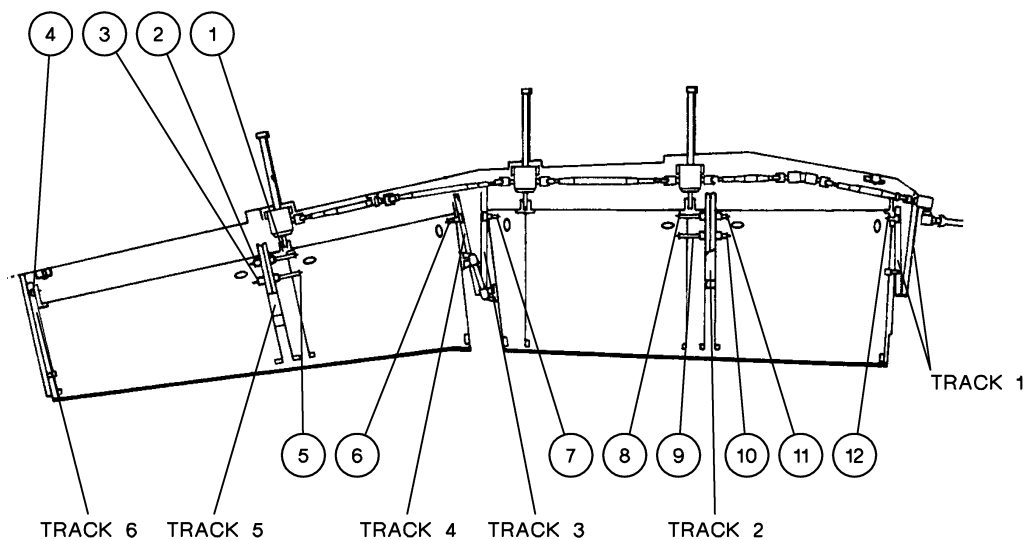
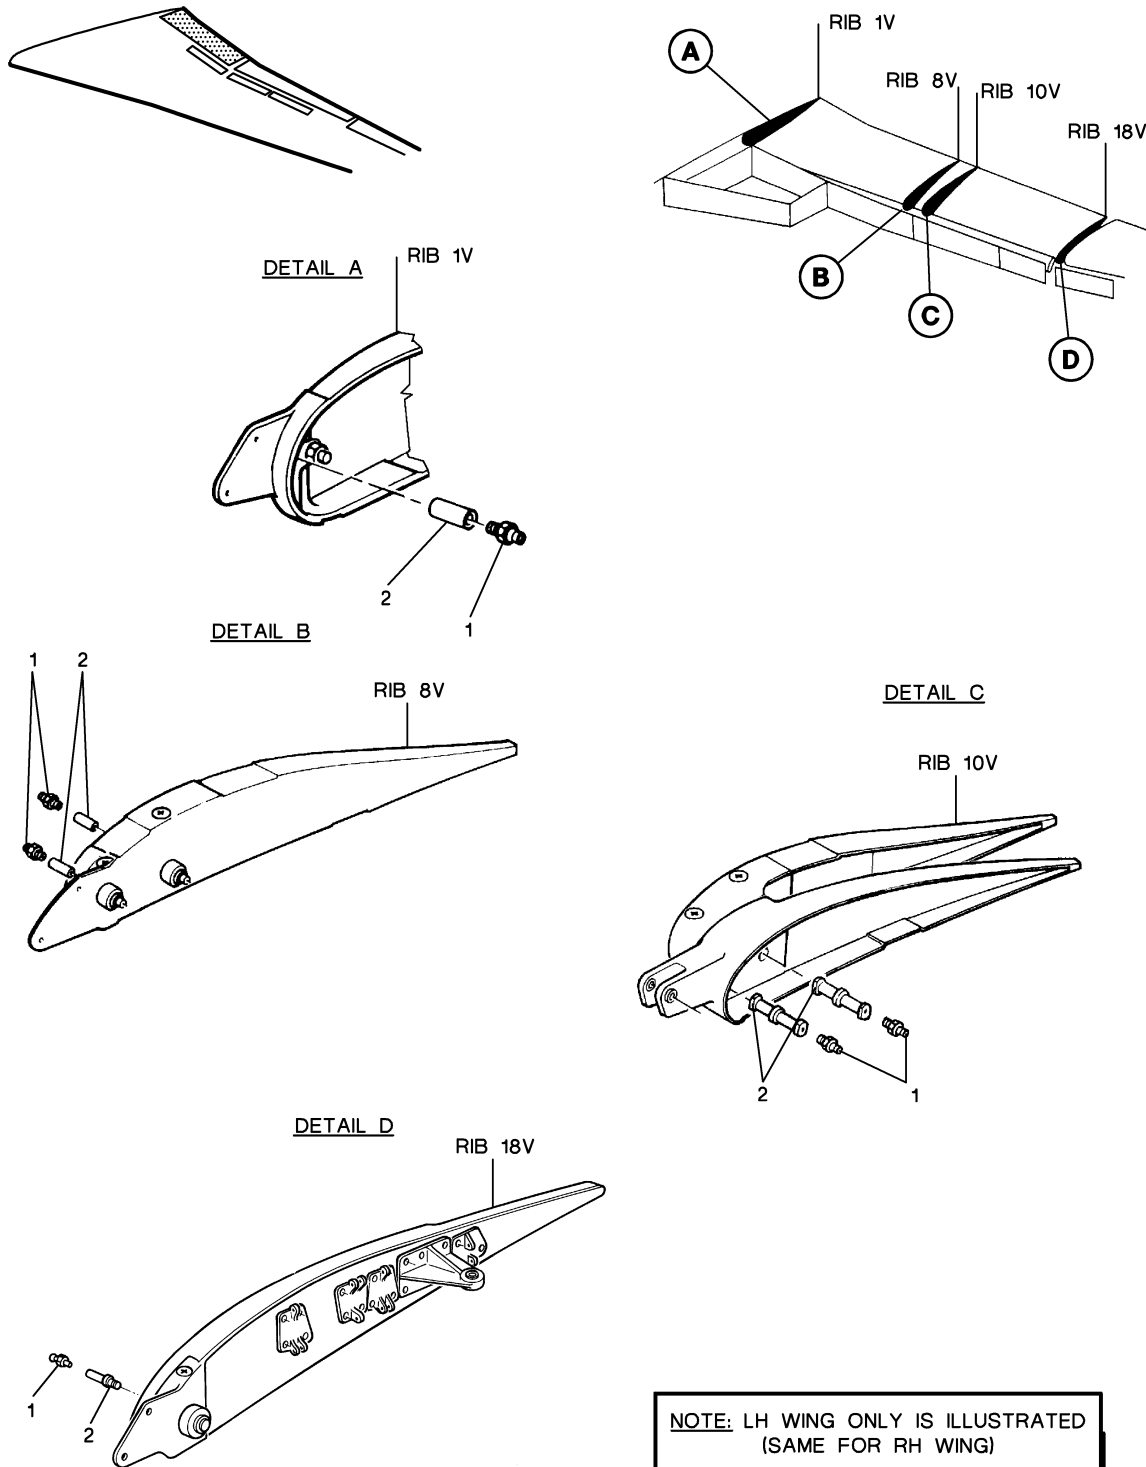

Figure 1: CLEANING/GREASING/LUBRICATION OF FLAP MECHANISMS
Figure 2: INBOARD FLAP - GREASE NIPPLES
Refer to **fig. 1**
Refer to **fig. 1** and **fig. 2**
NOTE: To grease the inboard flap rollers with greasing adapter (**TF50B27002A1**), it may be necessary to remove the spacers (2-fig. 2).
- (1) Remove the grease nipples (1-fig. 2) from spacers (2-fig. 2).
- (2) Remove the spacers (2-fig. 2) from the roller assemblies.
- (3) Install the grease nipples (1-fig. 2) directly on the roller assemblies.
- (4) Using greasing adapter for flap rollers (**TF50B27002A1**), grease the inboard flap rollers (see **fig. 1**, items 7 to 12) with **synthetic grease**.
- (5) Remove the grease nipples (1-fig. 2) from the roller assemblies.
- (6) Install the spacers (2-fig. 2) on the roller assemblies.
- (7) Position the grease nipples (1-fig. 2) on the spacers (2-fig. 2).
- (8) Screw the grease nipples (1-fig. 2) by hand until one or two threads maximum remain visible.
- (9) Tighten the grease nipples (1-fig. 2) by 3/4th turn.
Using greasing adapter for flap rollers (**TF50B27002A1**), grease the outboard flap rollers (see **fig. 1**, items 1 to 6) with **synthetic grease**.